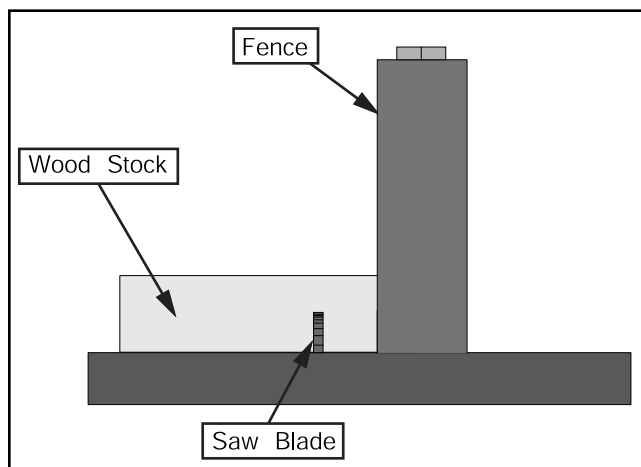

Figure 34. Rabbet cutting.
3. If the rabbet runs the length of the material, adjust the fence so the blade is aligned with the inside of your rabbet channel as shown in **Figure 34**.